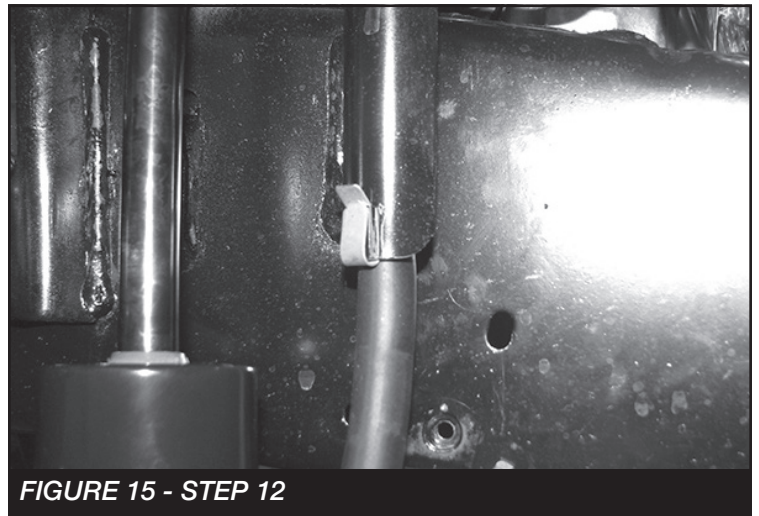

FIGURE 15 - STEP 12
12. Reinstall the diff breather hose by moving the metal clip up the hose 2" **SEE FIGURE 15** and the christmas tree fastener into the next hole down. **SEE FIGURE 16.**